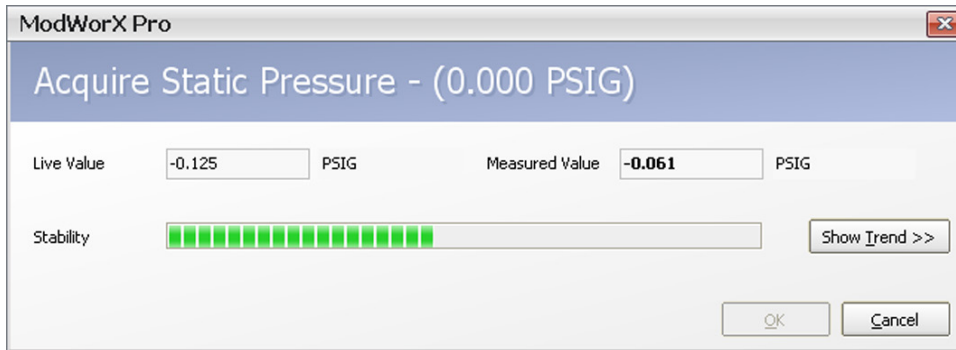
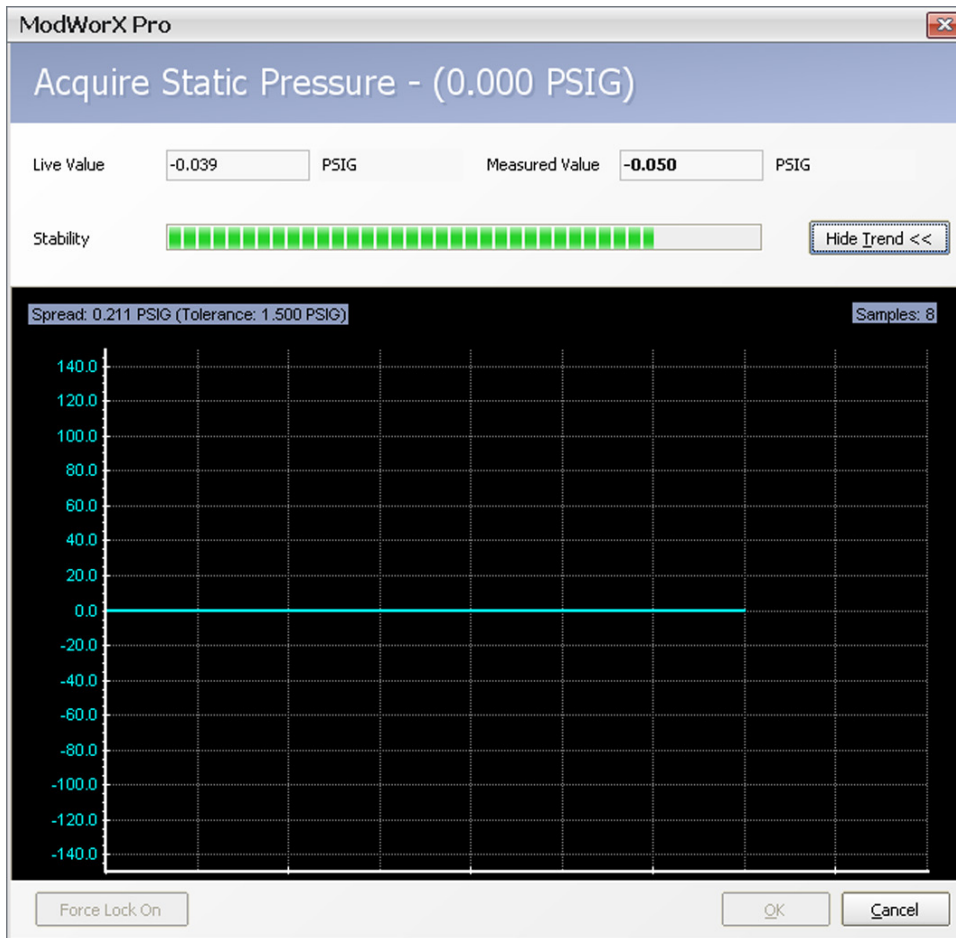

Figure 8.13
Figure 8.14
- 6. Enter zero (0) in this field, and click **OK**. A screen will appear, showing the live value, the measured value, and a stability bar showing the progression of the calibration (Figure 8.13). The live value is the instantaneous reading of the pressure input, and the measured value is the average of all samples read.
- 7. To view the progression of the calibration process in a graph, click **Show Trend** (Figure 8.13). This graph view also shows the spread of values and the number of sample readings taken (Figure 8.14).